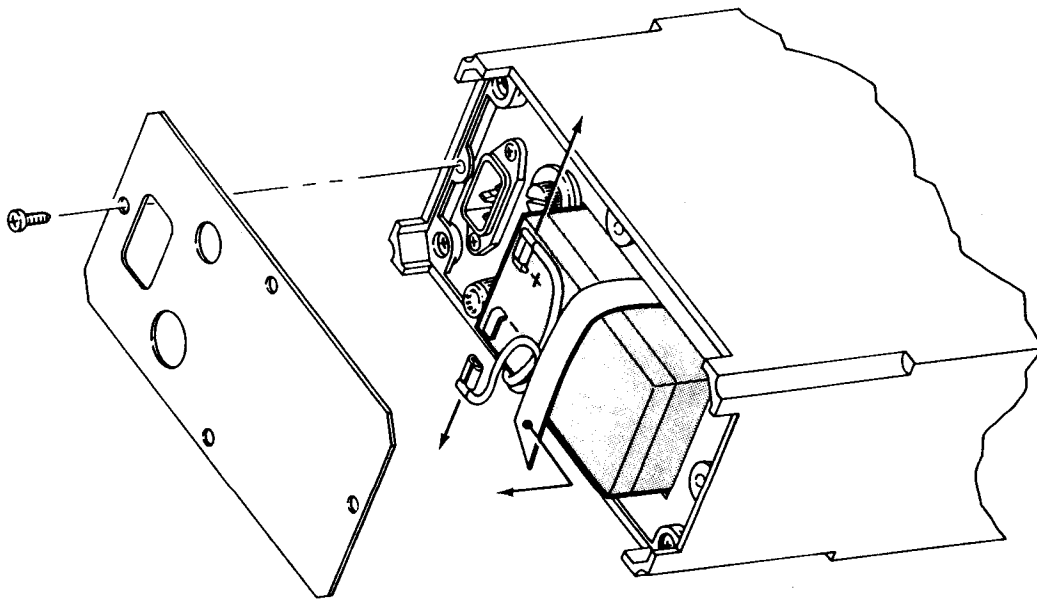

Figure 2-1. Battery Installation
2. Unscrew the back cover and connect the battery cables to the battery as illustrated in Figure 2-1.